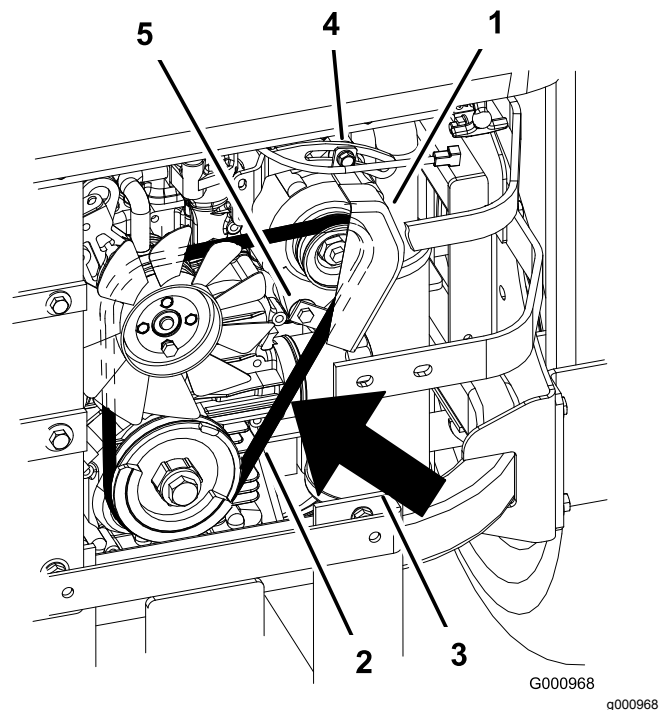

Figure 88
2. Adjust the alternator to the outside until there is 7 to 9 mm (1/4 to 11/32 inch) deflection in the belt between the engine and the alternator pulleys with 10 kgf (22.1 lb of force) (Figure 88).
5. If the deflection is correct, tighten the bottom and upper bolt (Figure 88).